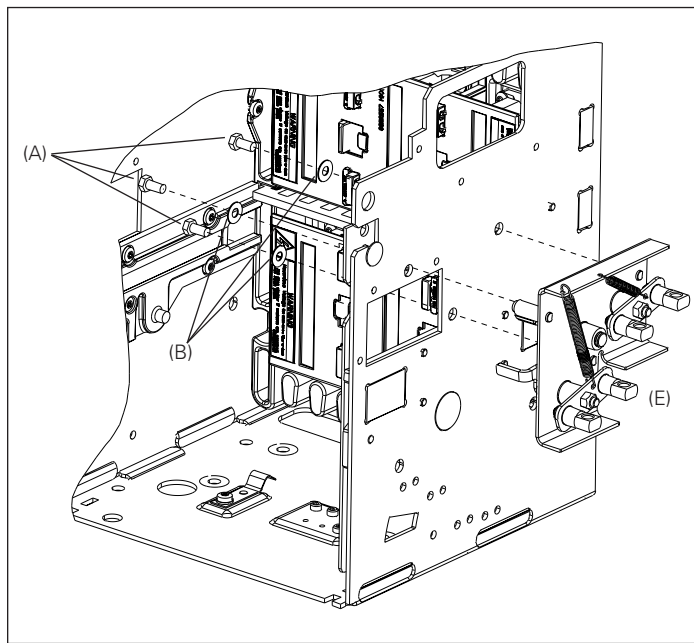
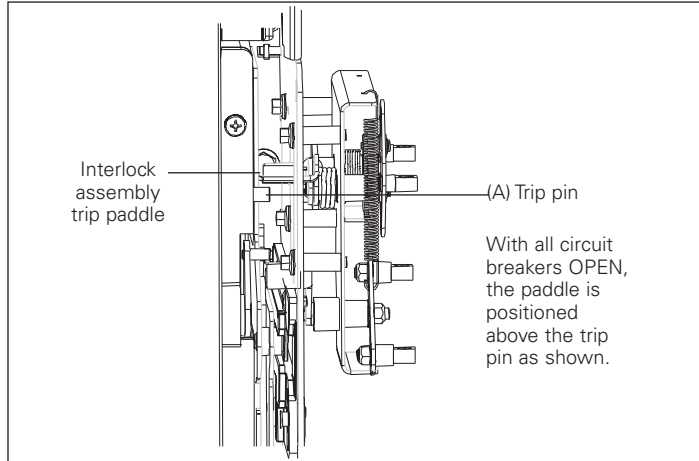

Figure 6. Details for Step 3
Figure 7. Details for Step 3
Fasten the interlock assembly (E) to drawout cassette's right-side sheet using three M6 x 12 mm hex bolts (A) and lock washers (B) as shown in **Figure 6**. Torque to 4,5–5,6 N·m (40–50 in-lb). Ensure that once the breaker is racked in, the interlock assembly trip paddle is above the trip pin on the trip bar as shown in **Figure 7**.